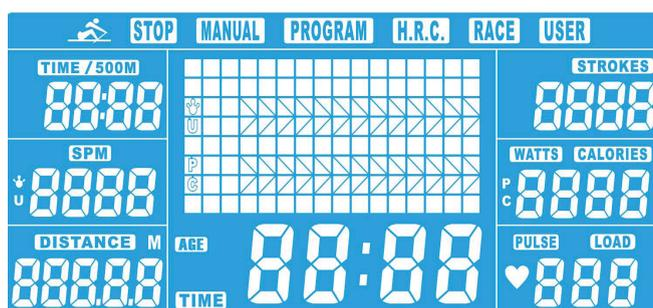

figure 1
- 1) Assemble the rear supporting bracket set (13) to the sliding beam (19), using a fixing plate (95), three spring washers (74) and three allen bolts (87) - see figure 1.
Plug the adaptor into the socket (or press and hold the reset button for 2 seconds). The console will start along with an acoustical signal. All segments will be displayed on the screen (fig. 1). Now you will be taken to the user menu (USER). Choose a user between U1 and U4 with the UP and DOWN buttons and confirm your choice with the ENTER button. You will now enter the training menu. No matter where the motor comes to a stop it will always return to position 1.